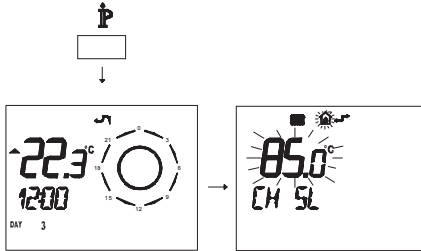

Fig. 7.39
- Press button **P** for more than 3 seconds to enter in **INFO** mode (Fig. 7.39).